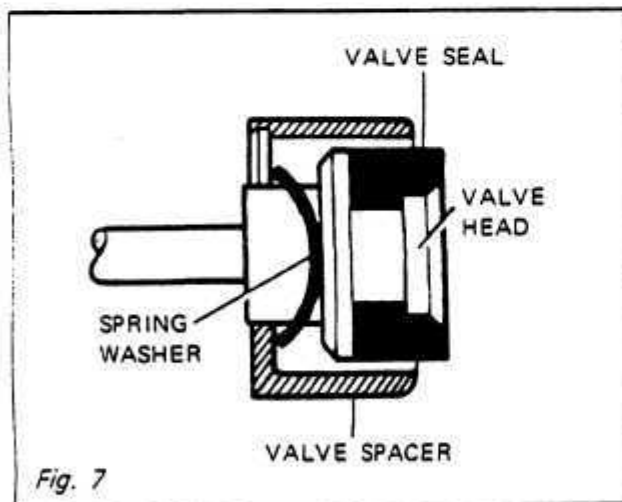

Fig. 7
4. Position new spring washer on valve stem so it "flares" away from valve stem shoulder. *Fig. 7*
11. Position dust cover over bore and install metal retaining band. Firmly press metal band against cover and crimp metal band in three (3) equally spaced places to secure.